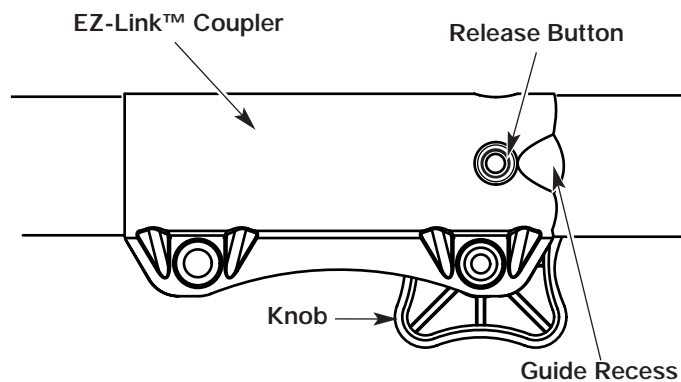

Fig. 19
1. Turn the knob counterclockwise to loosen (Fig. 19).
2. Press and hold the release button (Fig. 19).
1. Turn knob counterclockwise to loosen (Fig. 19).
NOTE: Aligning the release button with the guide recess will help installation (Fig. 19).
3. Turn the knob clockwise to tighten (Fig. 19).